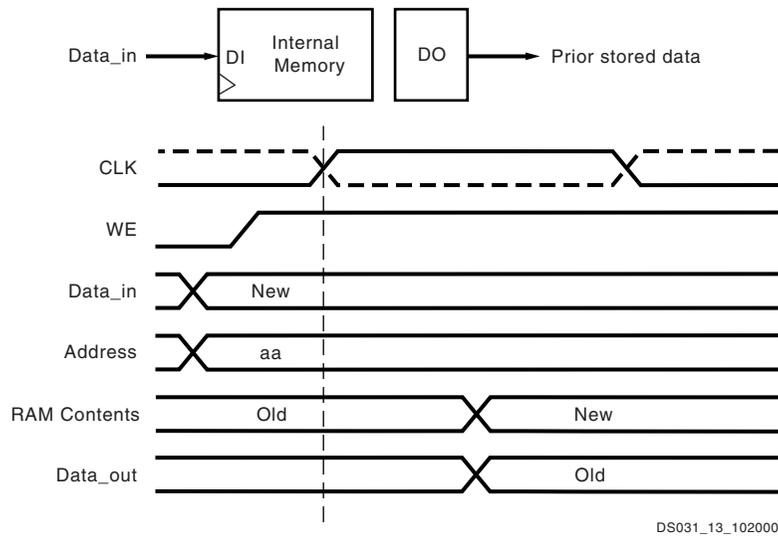

Figure 32: READ_FIRST Mode
The same clock edge that writes data input (DI) into the memory also transfers the prior content of the memory cell addressed into the data output registers DO, as shown in Figure 32.